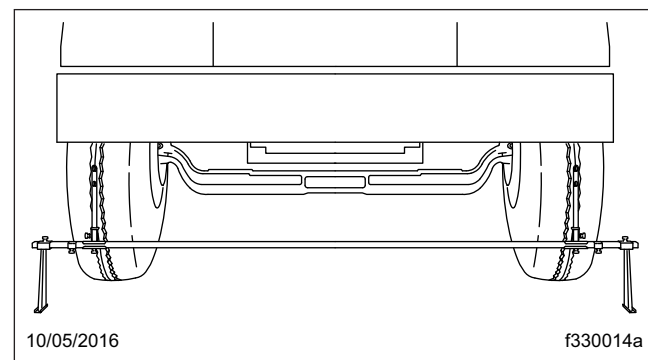
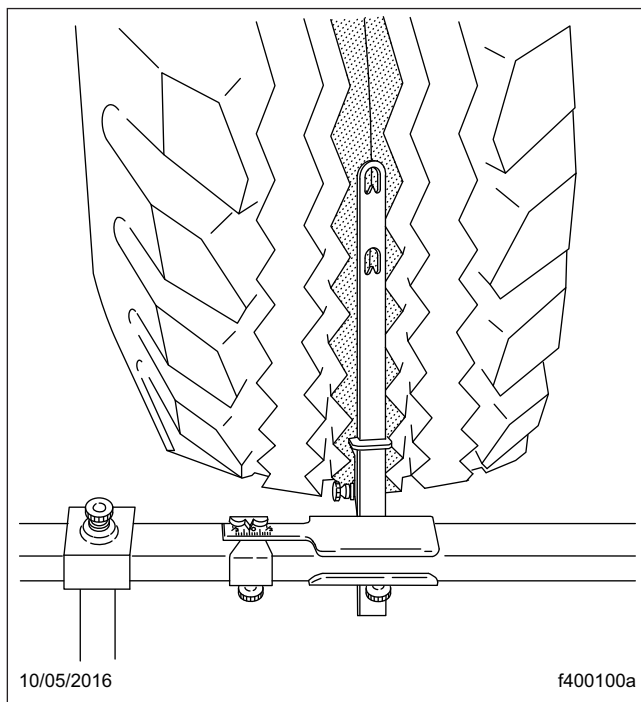

Fig. 4, Trammel Bar Positioning
Fig. 5, Setting Trammel Bar Pointers
7. Place the trammel bar at the front of the tires, see **Fig. 4**, and adjust the scale end so that the pointers line up with the scribe lines. See **Fig. 5**.